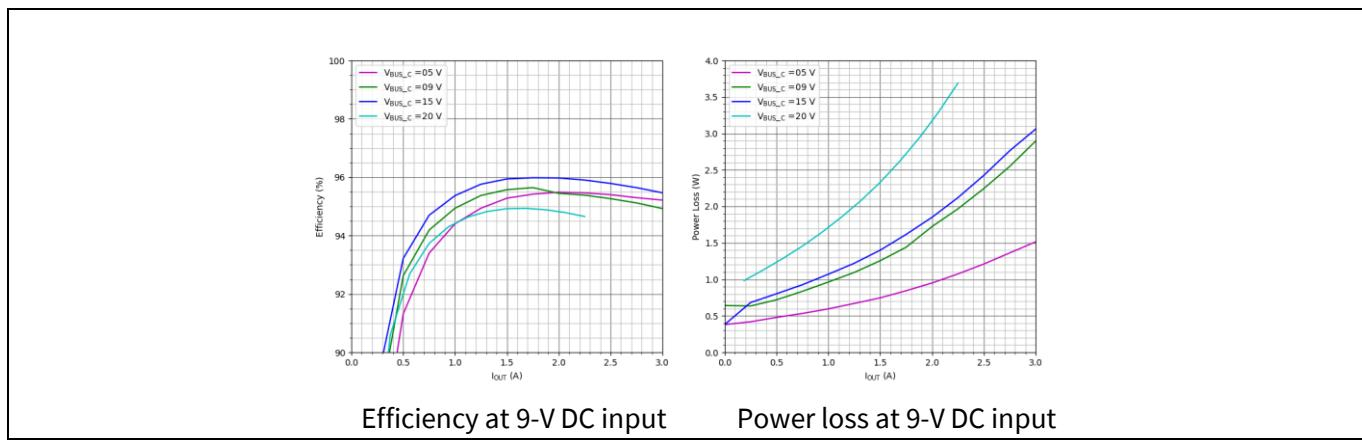

Figure 5 Efficiency and power losses at 9-V DC input
- Efficiency, losses at 9-V DC input, Port #0 and Port #1 V_{BUS_C} 5 V, 09 V, 15 V, 20 V are shown in Figure 5.